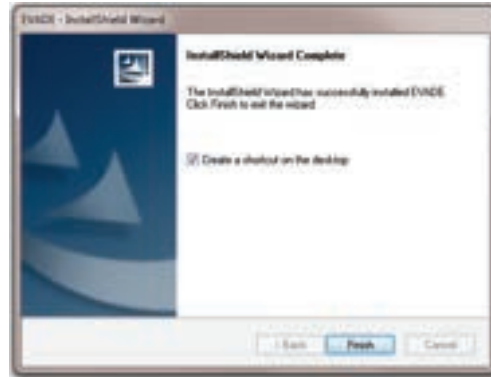

Figure 13. Installation complete window.
10. Once the installation is complete, a window will appear notifying you that the installation was successful (Figure 13). A check box is automatically selected to create an EVADE shortcut on the desktop. Deselect the check box if you do not want a shortcut created on the desktop.